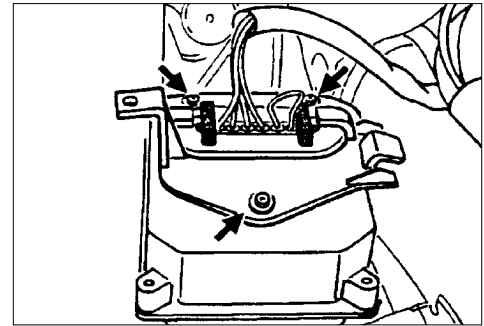

Figure 4
3.4 - Connect the adapter cables to the control units (connection only fits one way). Install the plastic brackets onto the control units using the self tapping T25 torx screws (Figure 4, Arrows).